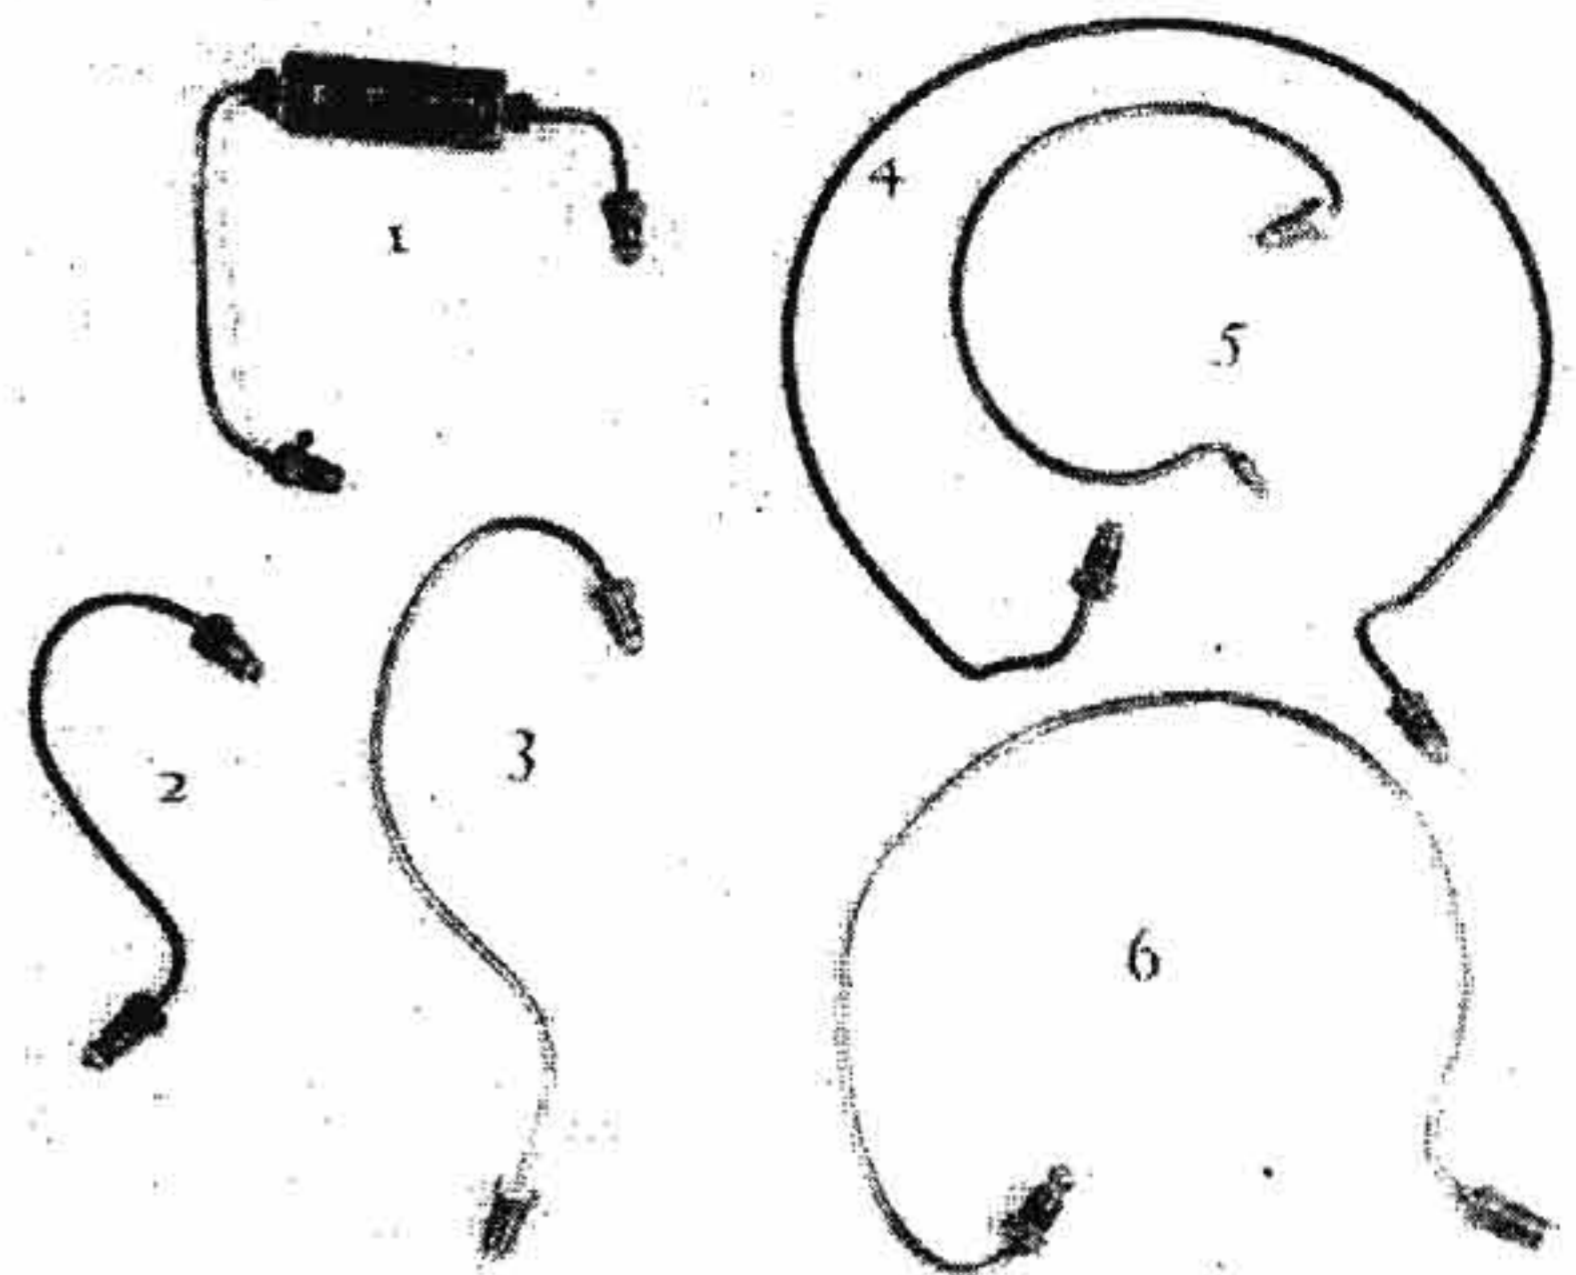

FIGURE 20-74.—Interior lantern tubing.
A. 150-mm. lantern.—In this type lantern the flasher is secured to the base of the lantern by four 5- by 75-mm. flister head brass machine screws. If metric screws are unavailable, the holes may be re-tapped for 10 x 32 machine screws. The flasher is connected to the lantern inlet connection by a piece of 4-mm. steel tubing, bent to a three-quarter circle. (See piece No. 5 of fig. 20-74.) One end of this piece is fitted with an F-40A connection which threads into the flasher, the other end is fitted with an F-60 type connection which threads into the base inlet fitting. This connection has a steel collar brazed to the 4-mm. steel tubing, unlike the standard F-60 fitting, which has a brass collar. Flashers in these lanterns are furnished with a crescent type burner of one of the following sizes as required: $\frac{1}{4}$ -, $\frac{5}{16}$ -, or $\frac{3}{8}$ -cubic-foot capacity. The focal height of the flasher unit itself is $5\frac{23}{32}$ inches with a $\frac{5}{16}$ -cubic-foot burner. Mounting holes for the installation of this lantern should be at least $\frac{1}{32}$ inch in size, for $\frac{3}{8}$ -inch bolts. Always use brass lantern bolts. spaced equally on a pitch circle $9\frac{1}{8}$ inches in diameter for $\frac{3}{8}$ -inch bolts. Always use brass lantern bolts.
(1) *Interior pipe assembly.*—The flasher is connected to the lantern inlet test manifold by an interior pipe assembly made up of 4-mm. copper-covered steel tubing bent to a three-quarter circle with a $\frac{1}{4}$ inch straight Whitworth pipe thread fitting on each end. (See piece No. 6, fig. 20-74.) There is also a Service-type interior piping assembly for this lantern. This assembly is also made up of 4-mm. copper-covered steel tubing but is bent to a one-quarter circle and has Service type F-40A connections on each end. (See piece No. 2, fig. 20-74.)
(2) After the flasher test is completed, screw the fitting located on the inside bend of either the A. G. A. or Service-type pipe assembly firmly into the flasher-regulator inlet hole; place a $\frac{5}{8}$ x 10-32 flister head brass machine screw in each of the
(3) If the interior pipe assembly was originally bent approximately to proper shape, the lugs of the flasher will line up with the screw holes in the base. There is sufficient flexibility in the piping so that installation should not be too difficult.
D. 300/375 mm. A. G. A. lantern.—Flashers are similarly installed in the 300- and 375-mm. A. G. A.-type lantern, except that different interior piping is used. For the 375-mm. lantern, see piece No. 4 figure 20-74.
E. 200/375-mm. Service lanterns.—These lanterns have different interior piping assemblies from the A. G. A. lanterns (see piece No. 3 fig. 20-74) and since the lantern test manifolds do not have a filter, as do the A. G. A. type, a separate filter (F-500) is installed in the interior piping assembly of all Service-type lanterns.
(1) This means that the interior piping consists of two pieces of tubing, each with a standard F-40 connection on each end. (See piece No. 1 fig. 20-74.) Since there are four connections involved in this installation it is preferable to make up and test the piping assembly on the bench before installing the unit in the lantern. In this way, only one connection remains to be tested after the installation is made. If the stormpane section of the 200-mm. lantern is removed, installation will be easier.
(2) In tightening up the connections in the test manifold, a special crow-foot wrench is necessary, particularly with the stormpane section in place. These wrenches should be a part of every acetylene tool kit, and are available through Coast Guard supply depots.